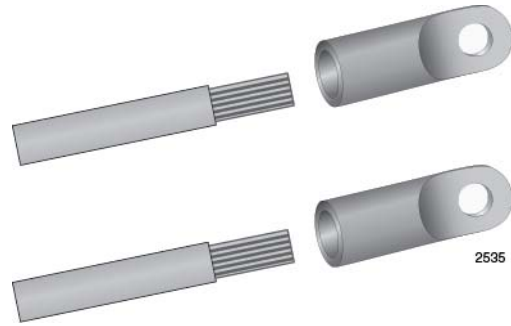

Figure 123. Attaching the Power Wires to the Power Terminal Lugs
2. Insert the power wires into the terminals included with the power supply and use a crimping tool to secure the wires to the terminals. See Figure 123 on page 183.